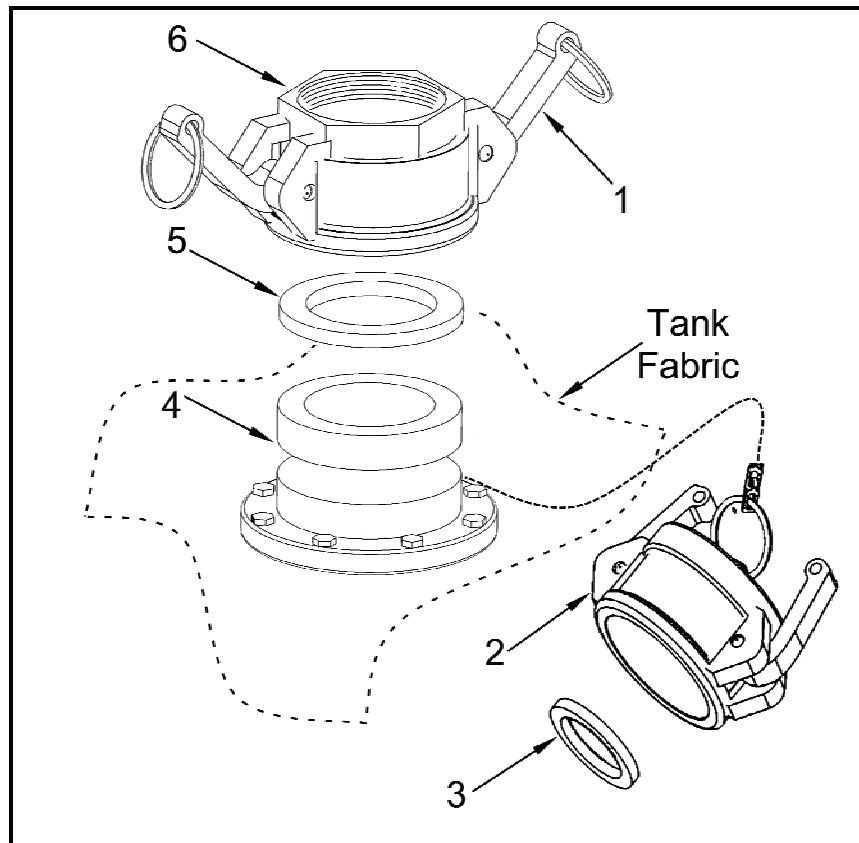

Figure 1. Vent Fitting Assembly
1. Disconnect female quick-disconnect coupling (Figure 1, Item 6) from male-flanged adapter (Figure 1, Item 4) by pulling outward on cam lock arms (Figure 1, Item 1). Lift female quick-disconnect coupling from male-flanged adapter.
2. Remove female quick-disconnect coupling gasket (Figure 1, Item 5). Discard gasket.
3. Remove gasket (Figure 1, Item 3) from inside dust cap (Figure 1, Item 2). Discard gasket.